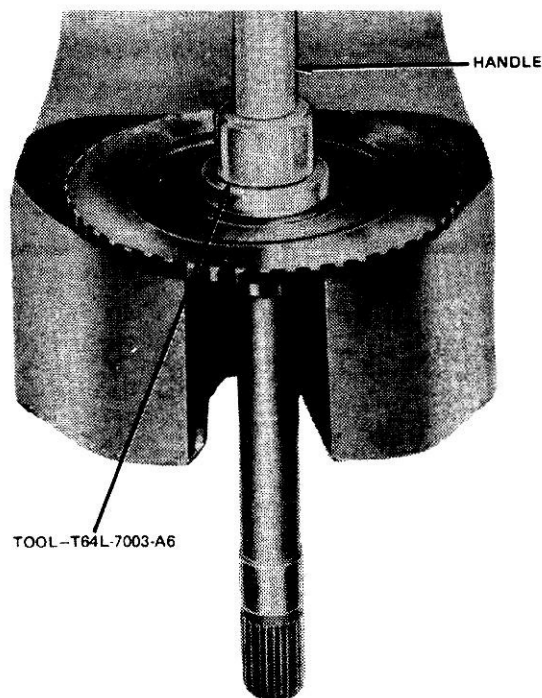

FIG. 45 Installing Input Shaft Bushing
1. If the input shaft bushing was removed, slip a new bushing over the end of the installation tool and position the tool and bushing to the bushing hole. Then, press the bushing into the input shaft as shown in Fig. 45.